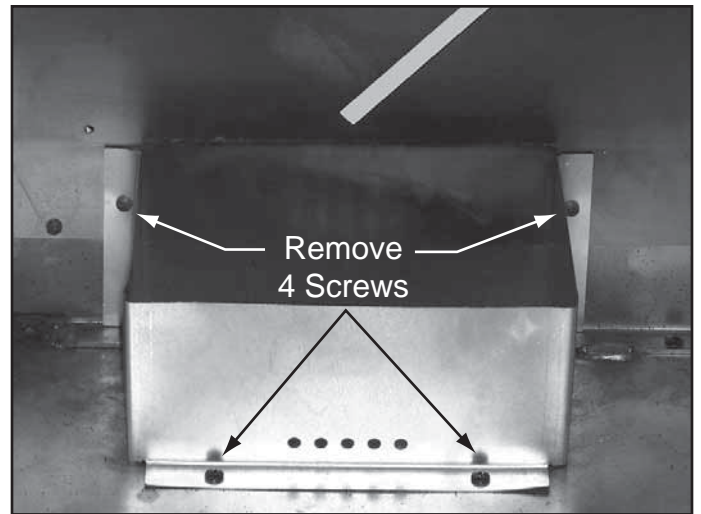

Figure 3.12 Remove Pilot Shield
- Remove pilot shield by removing four screws. See Figure 3.12.